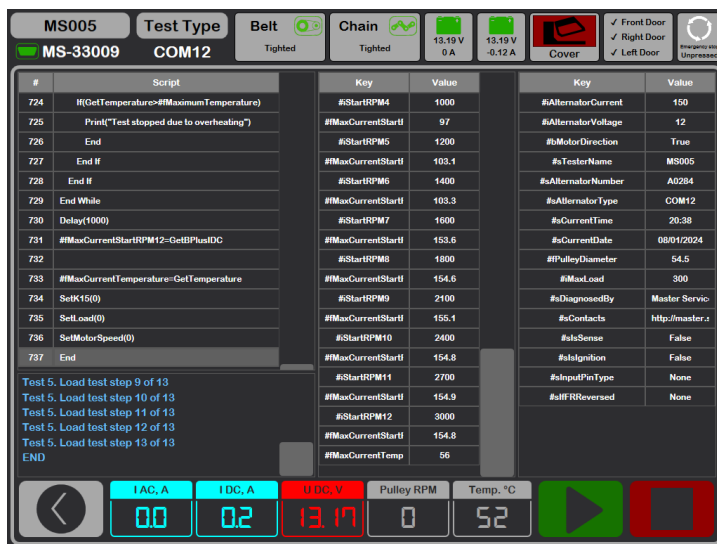

FIGURE 27. Menu of the automatic test mode
6. To start the test, press the button  in the opened window (see Figure 27). Then, the bench will automatically perform all checks according to the selected script. If necessary, the test process can be interrupted by pressing the button .